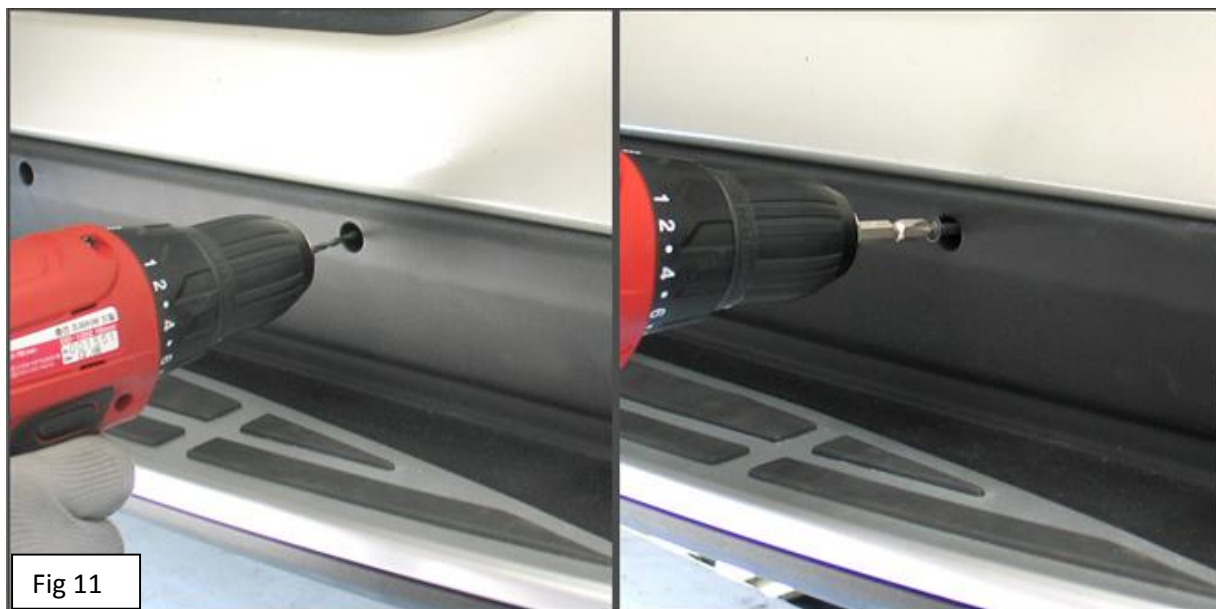

Fig 11
STEP9: With two doors in open position, using a **3.1 drill bit, drill through the recessed locations into the rocker panel area. Use caution not to damage the Running Board when drilling. Carefully insert each supplied screw. Snug and screw. (DO NOT OVER-TIGHTEN) [Fig11]